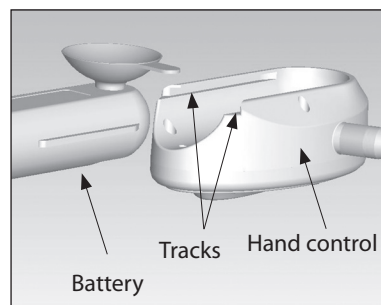

Figure 3
- It is essential that the side flaps (**see fig 1**) do not catch under any obstructions such as integral bath/tub handles, handrails, soap dishes and taps/faucets when rising. If your bath/tub has integral handles and the side flaps are likely to catch, optional side flap protectors are available (see section 15, "Accessories"). These hook over integral bath/tub handles (**see fig 3**) and help guide the side flaps smoothly over the handles.